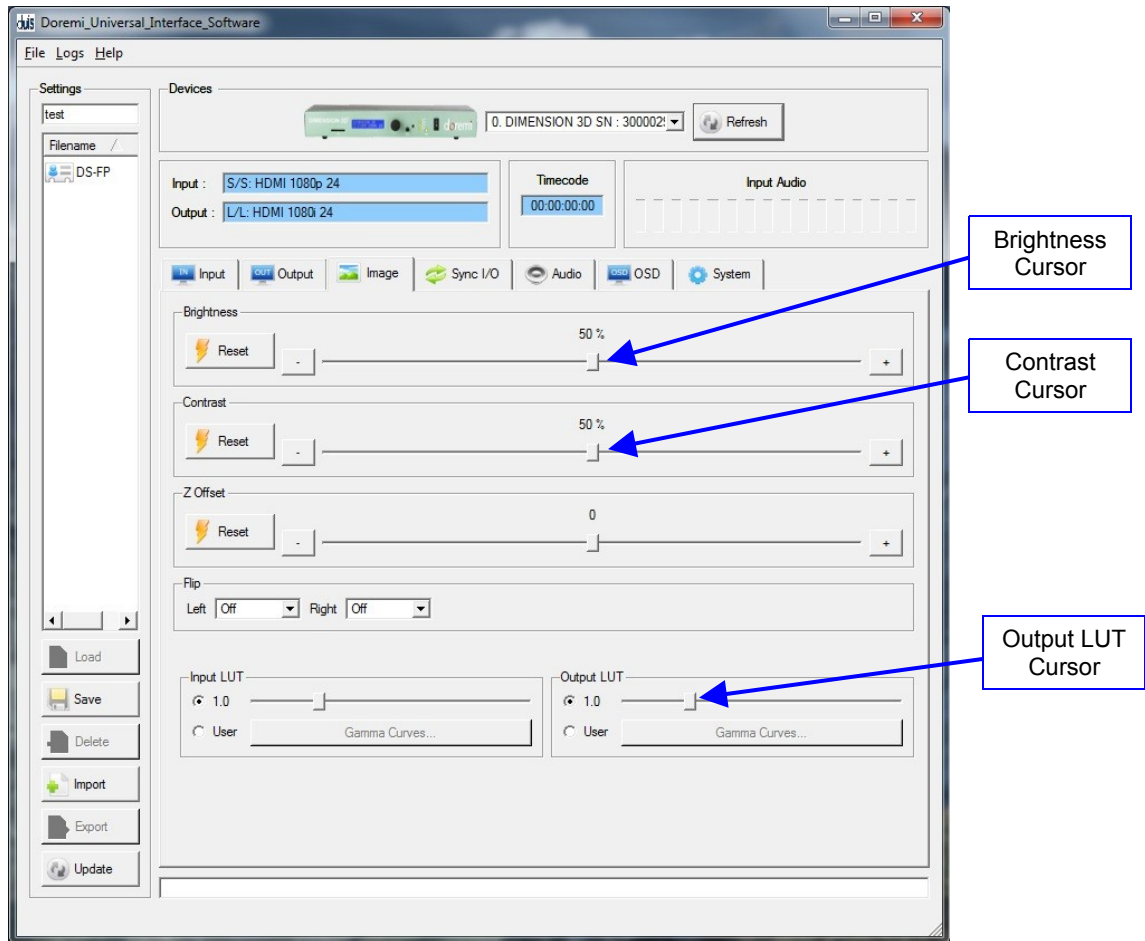

Figure 13: Doremi Universal Interface GUI – Image Tab
- The "Input" and "Output" LUT values can be changed using the sliders (Figure 13).
- Gamma curves can also be changed as well (Figure 13).
- Select the “User” check-box in the "Input" and "Output" LUT field (Figure 13).
- Click the “Gamma Curves ...” button (Figure 13).